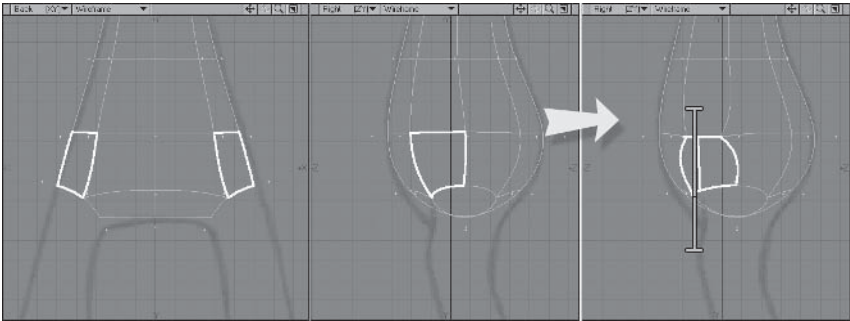

Figure 3.2-7. Create an extra edge using Knife.
9. Select the two polygons shown in Figure 3.2-7 and select the **Multiply>Subdivide>Knife (Shift+k)** tool. Click and drag the cursor down over the polygon in the Right (ZY) viewport.